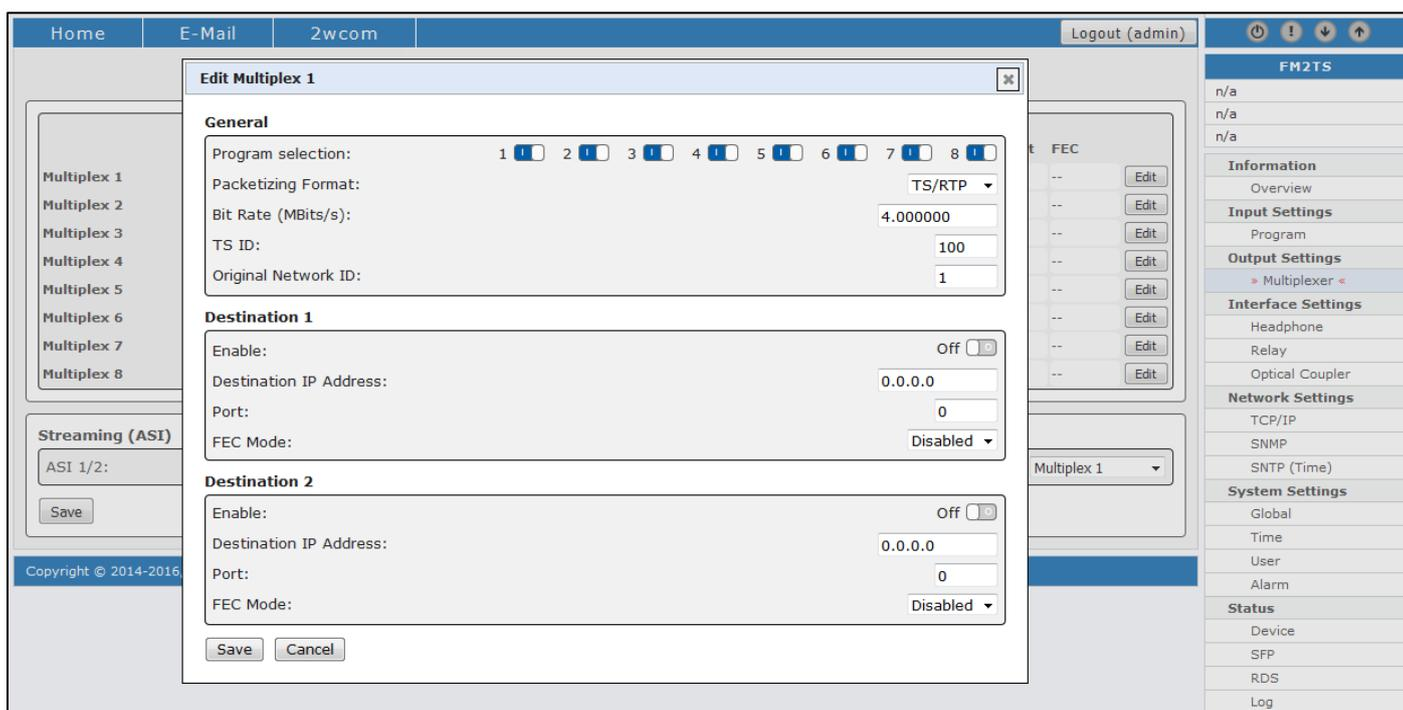

Figure 11: FM2TS Web interface – Transport stream configuration
2. Click in the line "Multiplex 1" on the "Edit" button, to configure the appropriate transport stream. The window *Edit Multiplex* appears (see Figure 11).
4. Enter or change in the block "General" following parameters for multiplexing of the audio programs (see Figure 11):
4. Set up in the block "Destination 1" or "Destination 2" following parameters for both IP outputs (see Figure 11):